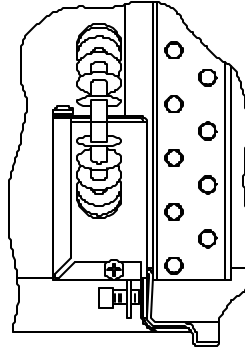

FIGURE 8
3. The heater bracket **must be installed between the basepan and the plastic drain pan.** See Figure 8.